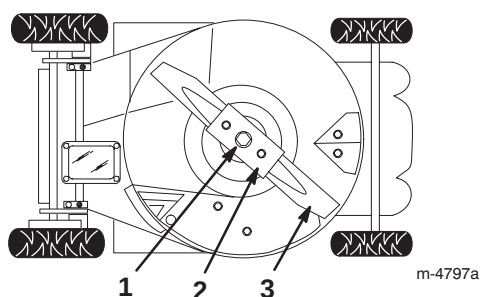

Figure 27
4. Tip the lawn mower on its *left* side (air filter up) (Fig. 27).
2. Remove the blade bolt, the lock washer, the blade, and the blade stiffener (Fig. 27).